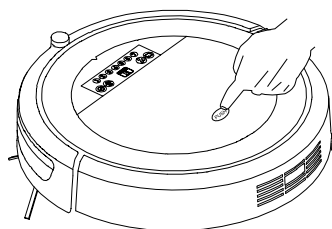

Fig.1
1. Press "PUSH" on the panel to pop out the dust cover (Fig. 1).